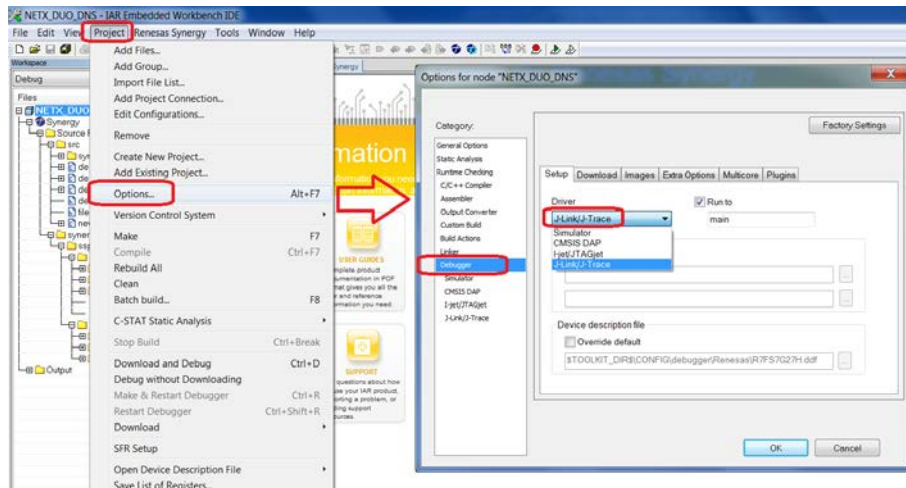

Figure 1.14 Debugger Setup 1
1. Verify the debug probe by clicking **Project > Options > Debugger > Setup > Driver** as shown in Figure 1.14.